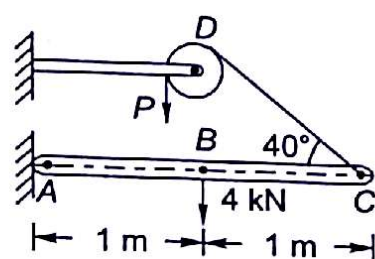

Fig. 9.26
- 9.4 A beam ABC , 2 m long is held in equilibrium by the application of a force P as shown in Fig. 9.26. Using the principle of virtual work, find the magnitude of the force P when a weight of 4 kN is hung from the beam ABC at its mid-point.